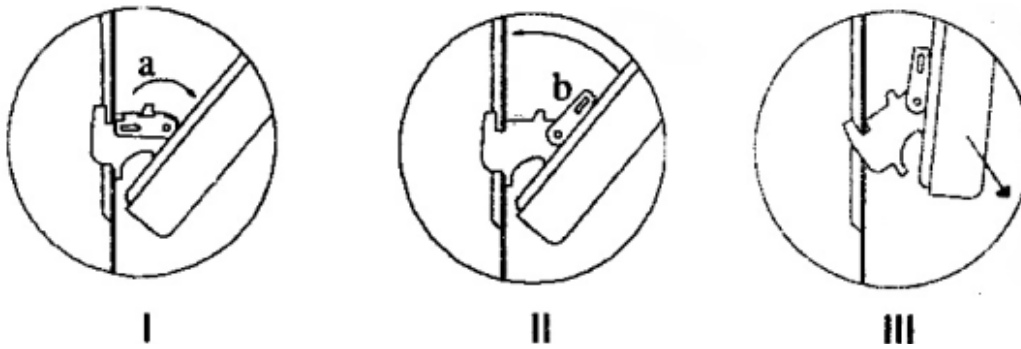

Fig. 10
- dismount oven door as follows (fig. 10):